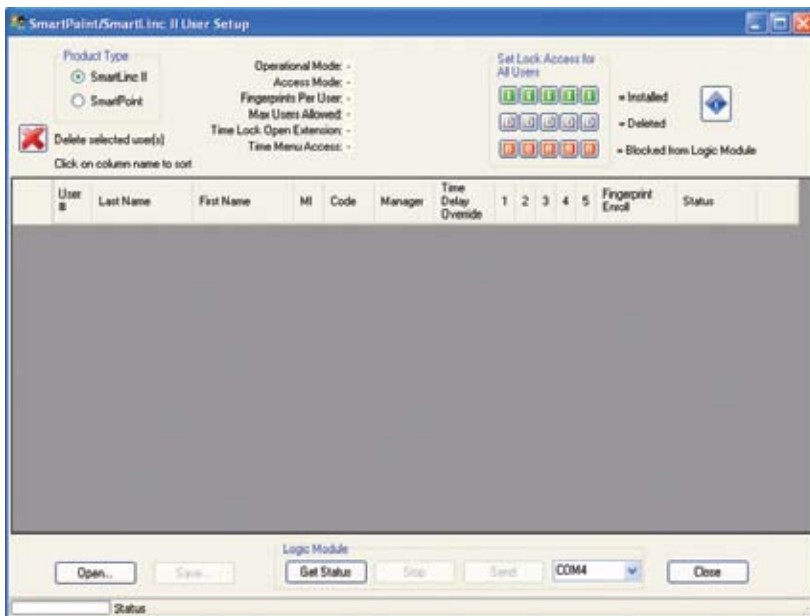

Figure 55
7. Press the **P** button four (4) times to select PC Link. The Logic Module display will show **PC LINK**. Press the **OK** button to start communication with the PC. The Logic Module display will show **PC LINK, ENABLED**.
8. Press the GET STATUS button on the software (Figure 55).